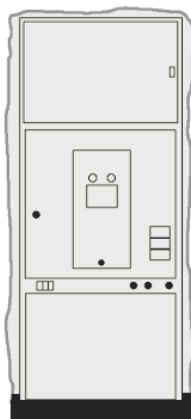

Figure 17
- If packed exclusively for truck transport, the panels are delivered on a pallet with PE protective film (Figure 17).